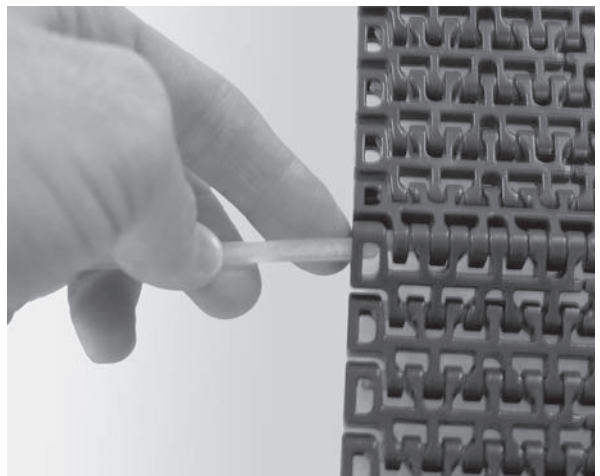

Figure 53
2. Use a second belt rod of the same size to push on the opposite end of the belt rod. (Figure 53).